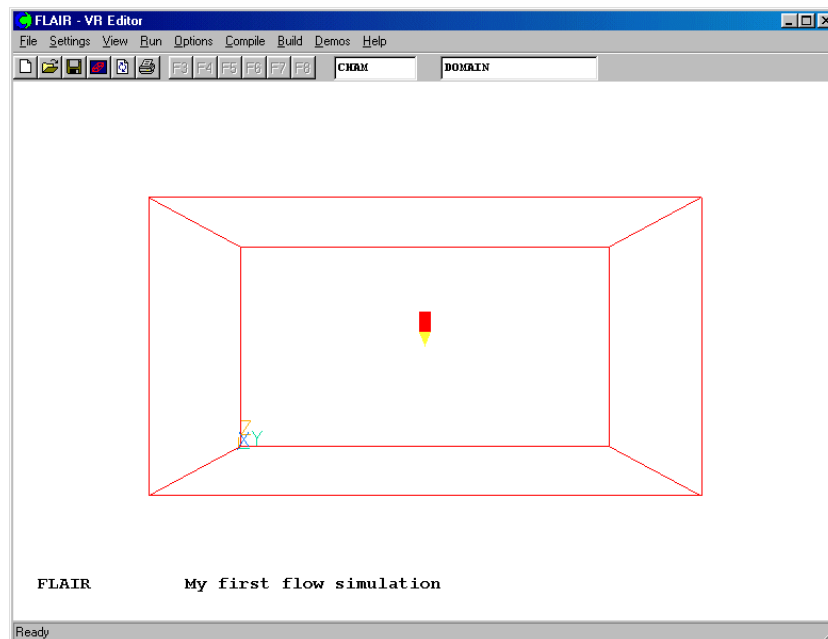

Figure 2.5 The resized room
- Click on "Reset" button, **Reset** on the movement panel and then click "Fit to window". The resized room shown in figure 2.5 will appear on the screen.